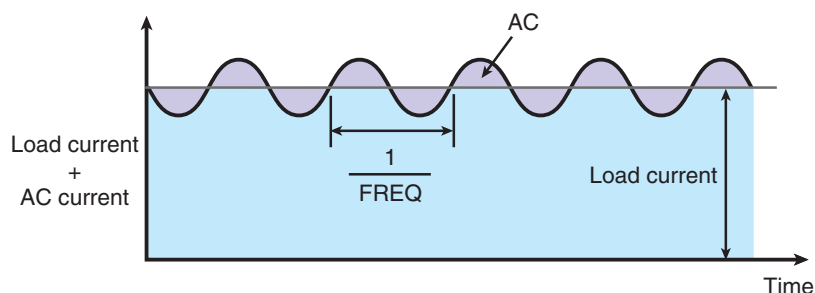

Fig. 2-8 Measuring AC current
Fig. 2-8 shows a conceptual diagram of the frequency (FREQ) and value (AC) of the measuring AC current. Because the percentage with respect to the load current takes precedence for the measuring AC current, changing the load current also changes the measuring AC current. Even when an absolute value is used to set the measuring AC current, it is stored as a percentage in the KFM2150.